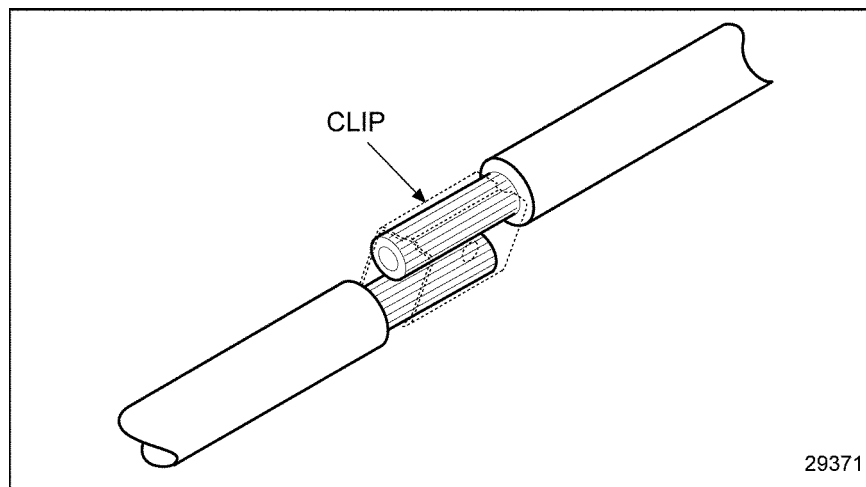

Figure 3-17 **Securing the Leads With a Clip**
2. Secure the leads with a commercially available clip and hand tool. See Figure 3-17.